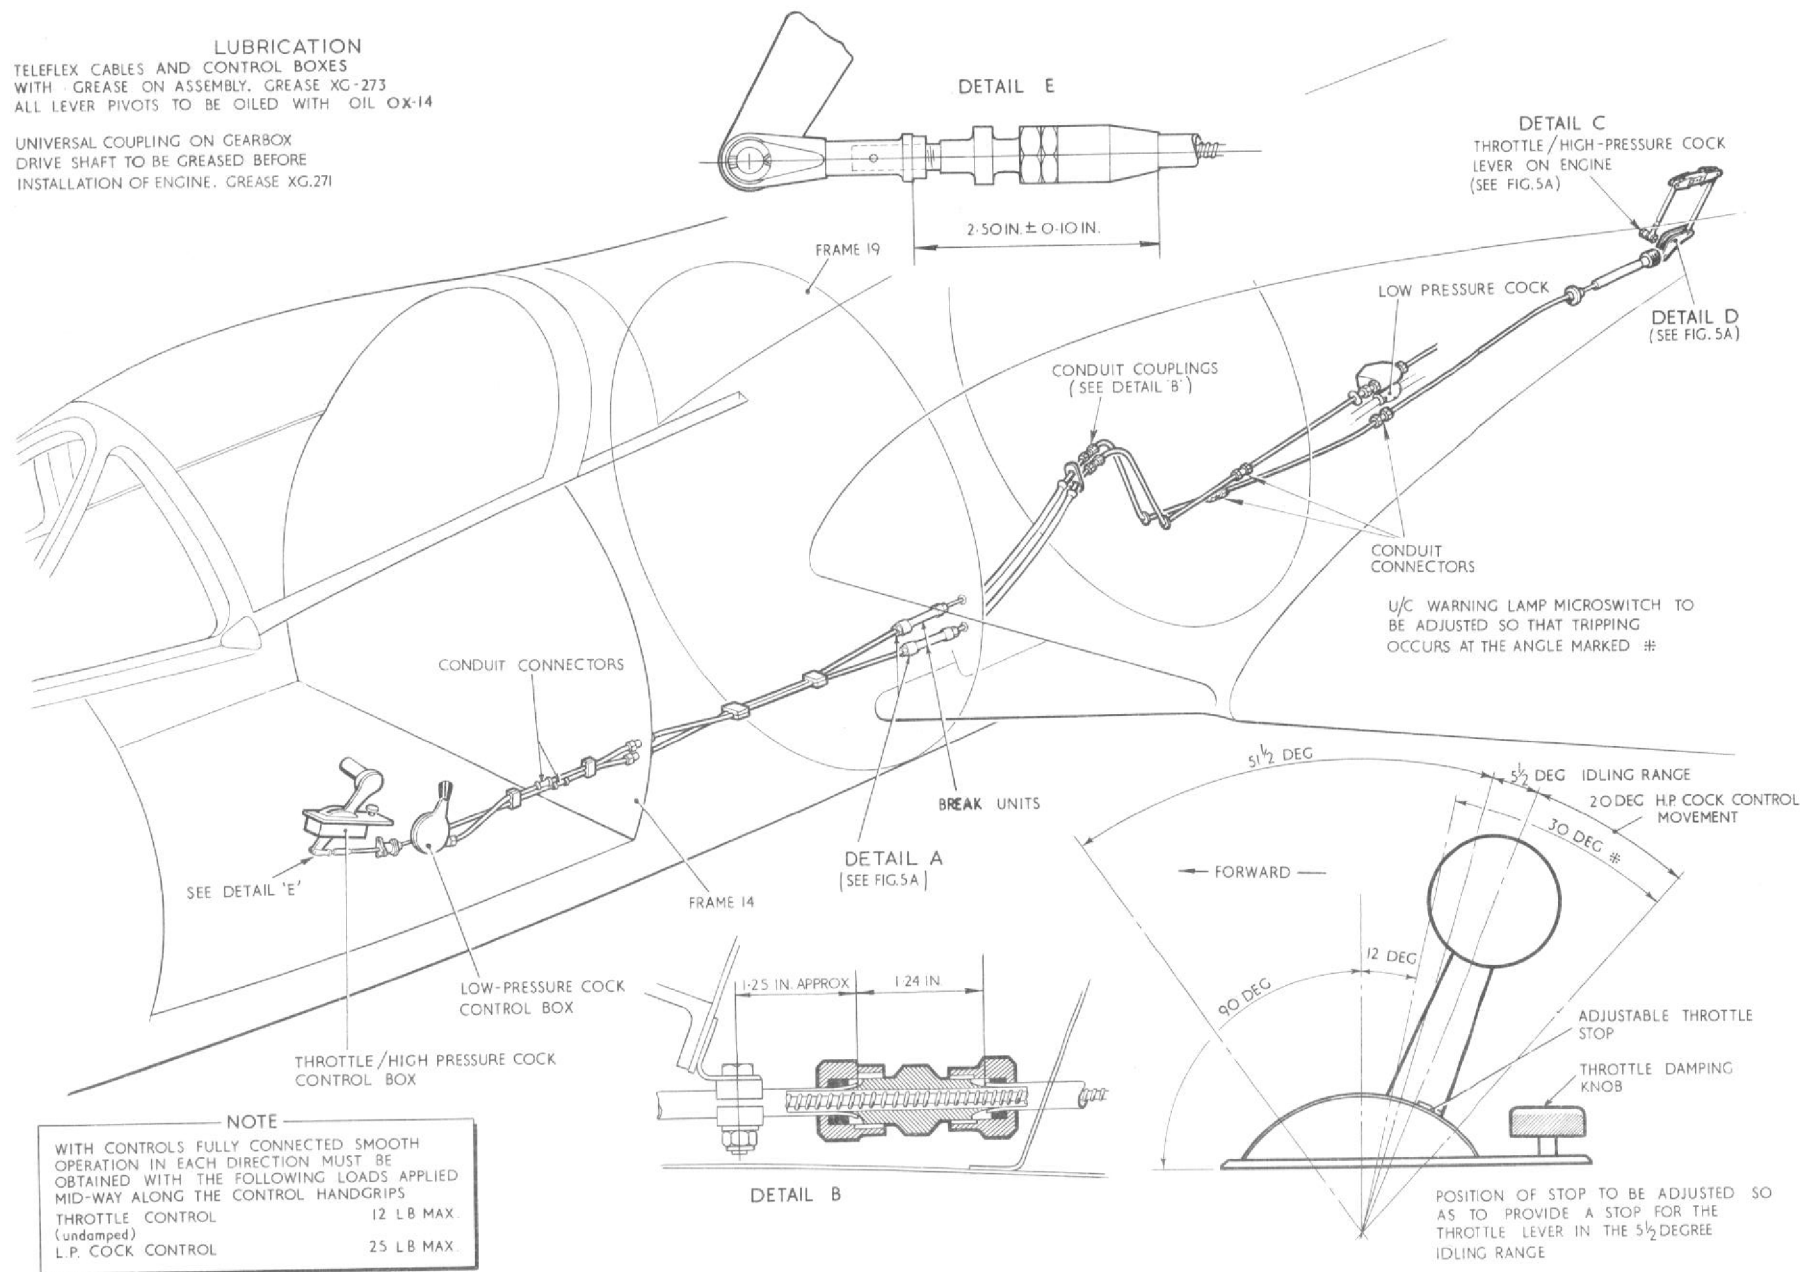

Fig 5 Engine Controls (1)
## Engine controls (fig. 5 and 5A)
12. The combined throttle and high-pressure cock and the low-pressure cock should be checked to ensure that they come up against their stops before the system is strained. In no circumstances should the throttle and high-pressure cock stops on the engine be interfered with in any way, as these have been set in the correct position by the engine manufacturers. Control settings are given in fig. 5 and 5A.
15. Oil specifications and capacities for the engine, accessories gearbox and turret drive arm are listed in the Leading Particulars at the front of this Volume. The units should be checked for oil level before flight and topped up as necessary (*Sect. 2, Chap. 2*). Lubrication of the engine controls is detailed in fig. 5. The gearbox universal drive shaft couplings should be lubricated as described in para. 25.